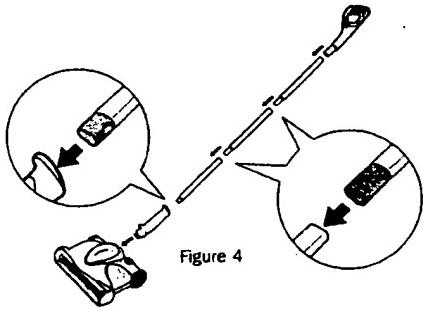

Figure 4
4. Push the Handle Tubes (10) and the Upper Handle (11) together (fig.4).
- The Charging Light Indicator (3) on the top of the Main Unit (1) will illuminate to indicate that the sweeper is properly charging. Figure 4